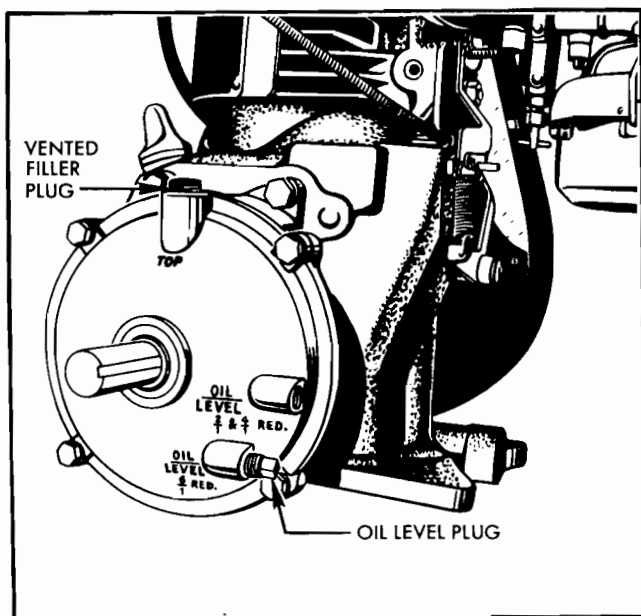

Figure No. 5—Reduction Gear Oil Levels
4. If the engine is equipped with a reduction gear unit, the correct oil level for the gear reduction is indicated on the face of the gear housing. (See Figure No. 5.) To fill the unit: